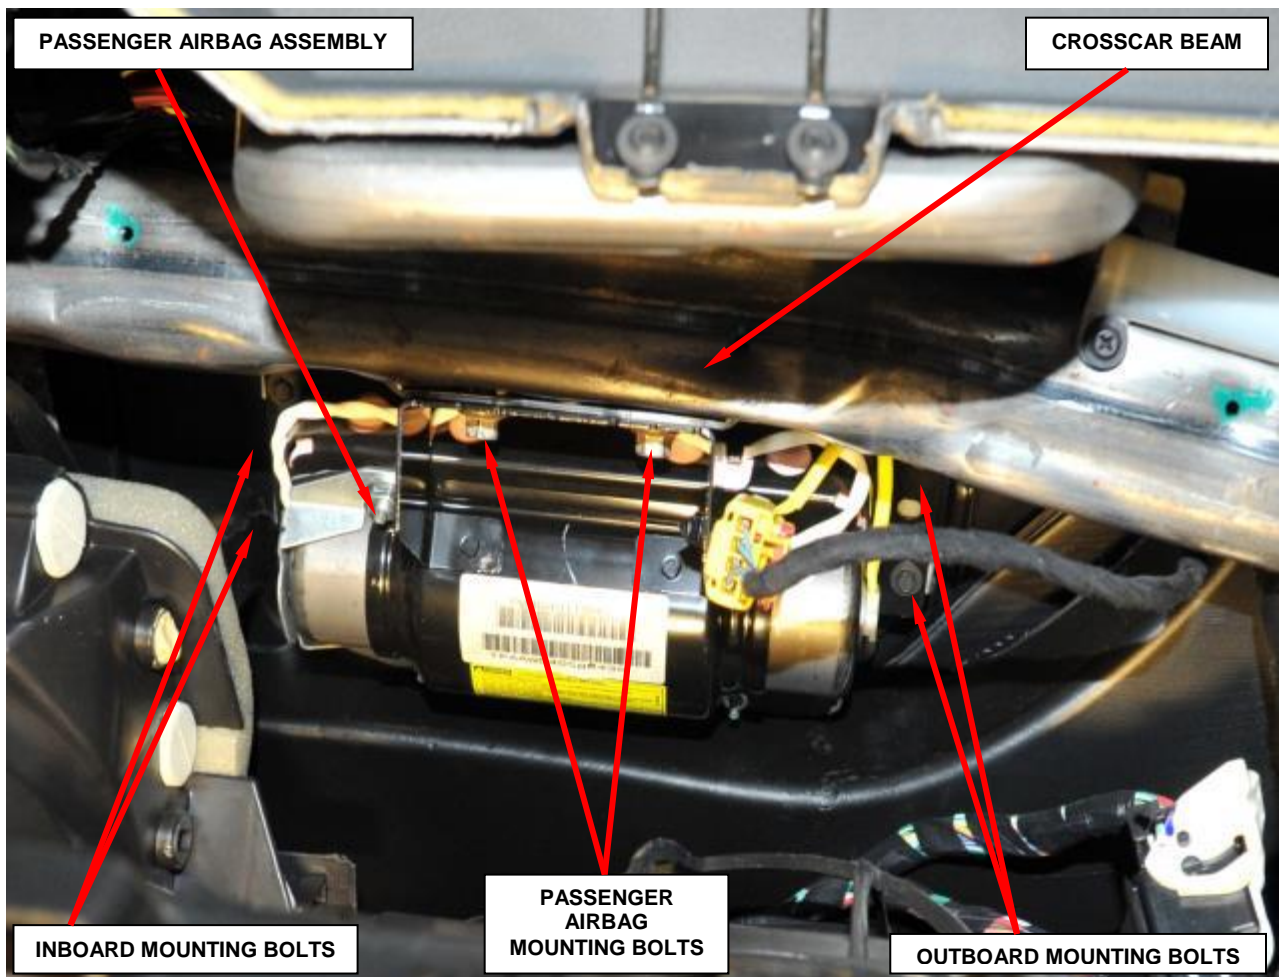

Figure 24 – Passenger Airbag Mounting Locations
5. Remove and save the two inboard mounting bolts to the passenger airbag assembly just below the distribution duct and to the left of the distribution housing (Figure 24).
6. Remove and save the two outboard mounting bolts to the passenger airbag assembly just below the distribution duct (Figure 24).
7. Remove and save the two passenger airbag assembly mounting bolts to the crosscar beam (Figure 24).